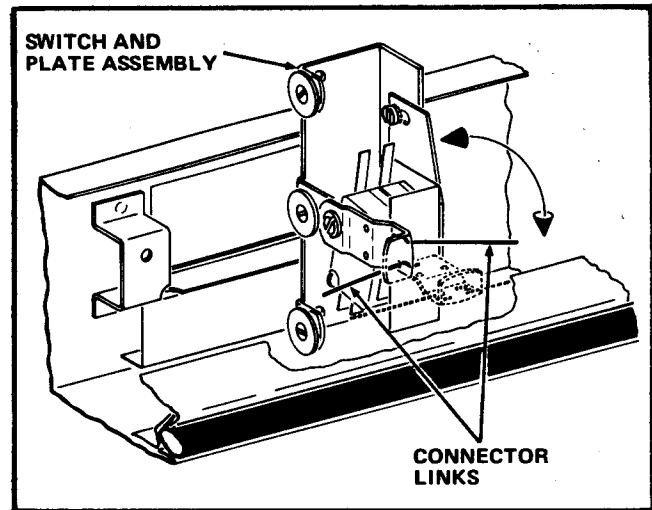

FIGURE 17
10. Rotate the Switch and Plate Assembly 90° about the Push Button Shaft axis and carefully remove the Assembly from the Connector Links. See Figure 17.